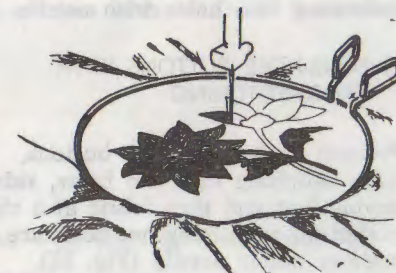

Fig. 54
- Move hoop slowly, but only when needle is out of fabric and holding both threads for the first stitches (Fig. 54).